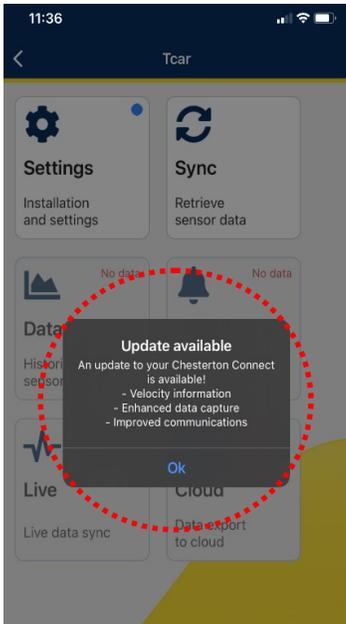
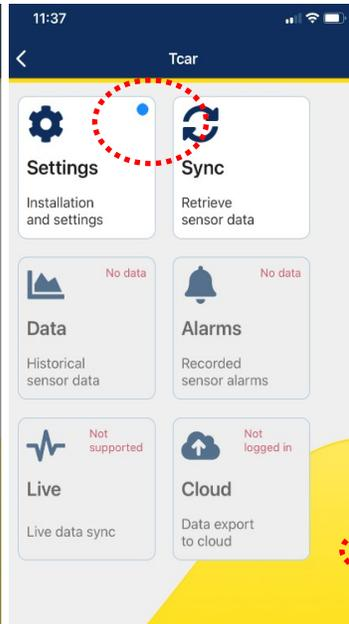

Figure 41
Figure 42
DEVICE VERSION: Should there be any firmware updates, the available updates for the sensor will be displayed (see figure 41). Follow the **blue circle** in the **Settings** menu (see figure 42).
1. Select **Settings** (figure 42).